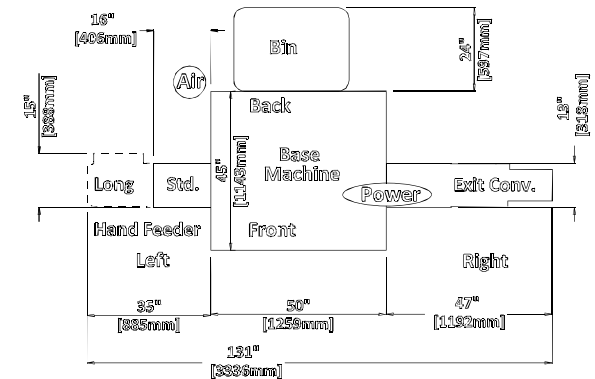

Figure 2-15. Stand-Alone Footprint
1. Make sure there is adequate floor space for this setup. Figure 2-15 illustrates how much space this setup will require.